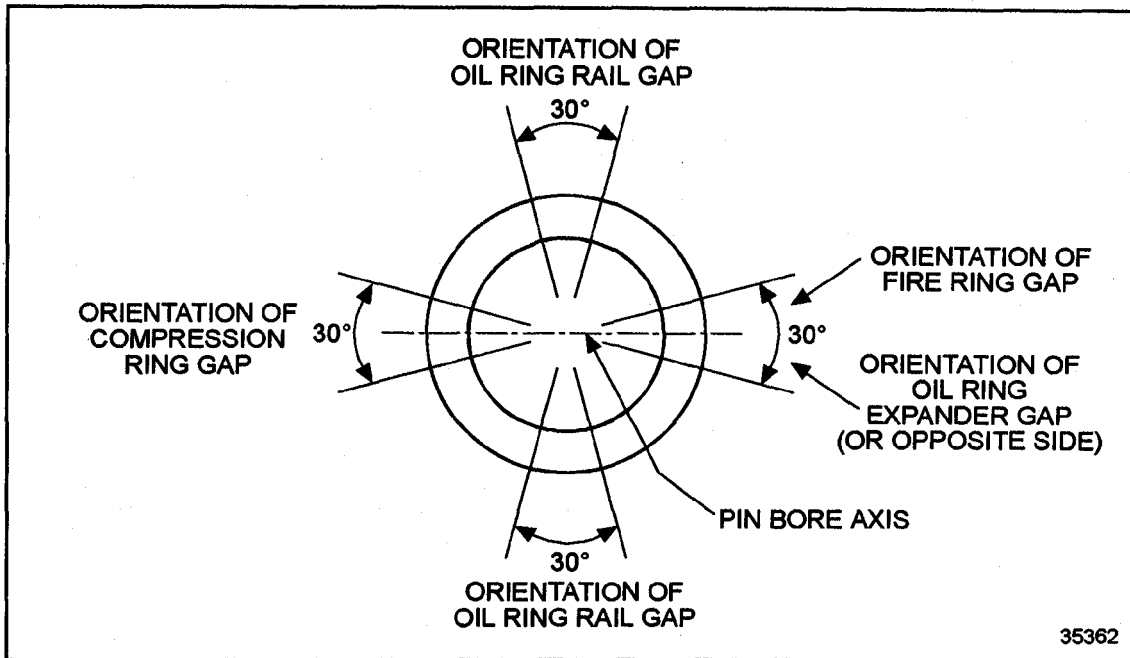

Figure 1-253 Top View of Piston Dome
3. Stagger the ring gaps around the piston. See Figure 1-253.